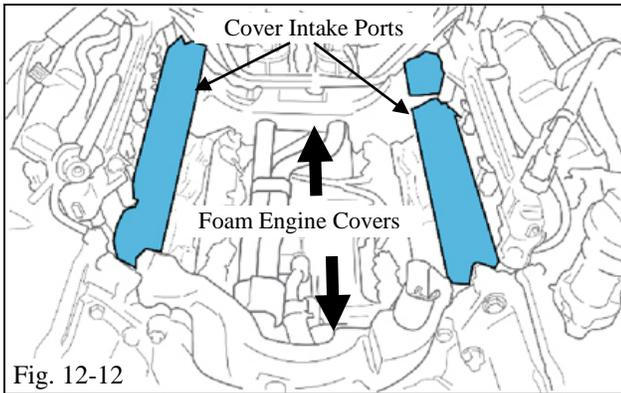

Fig. 12-12
- (o) Clean and cover the intake ports to prevent debris from entering the engine (Fig. 12-12).
- (p) Remove and discard the 2 foam engine covers that are under the intake manifold (Fig. 12-12).